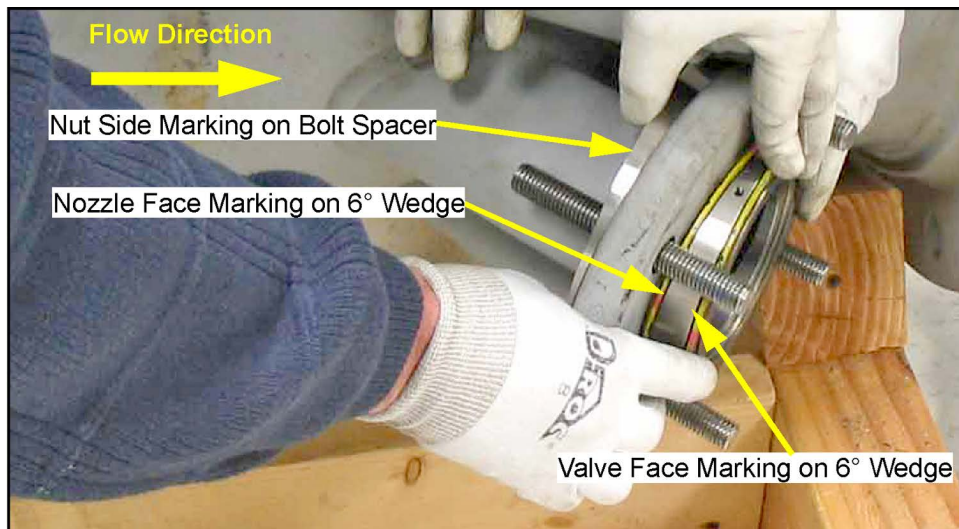

Figure 4: Mounting Bolts, Bolt Spacers, Wedge and Gaskets Positions
2. With the Nut Side marking facing the pipe, place the split bolt spacer halves over the bolts behind the flange, with the thin ends corresponding to what will be the thickest side of the other wedge (see Figure 4 below).
3. With the Nozzle Face marking facing the pipe and the Valve Face marking facing outward, hold the gasket/wedge/gasket combination in line with the insertion hole and oriented as shown in Figure 4 on page 28.